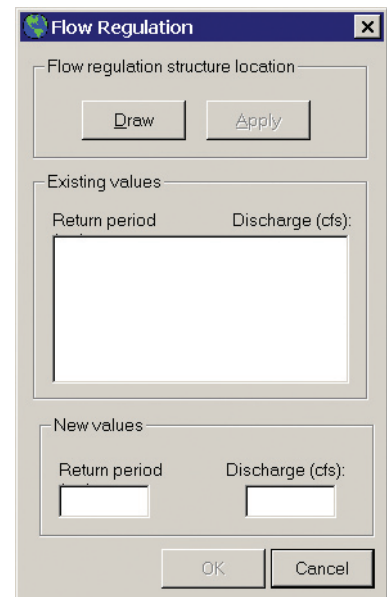

Figure 5-4 Flow regulation
- b. To include the Flow Regulation in the analysis, draw the flow regulation structure location using the “Draw” option on the flow regulation menu (see Figure 5-4). The existing return period and discharge values (in cfs) will be displayed under “Existing values.” Select “Existing values” to change and enter new values for the “Return period” and “Discharge (cfs)” under “New values.” Select “OK” after you have entered the new values.